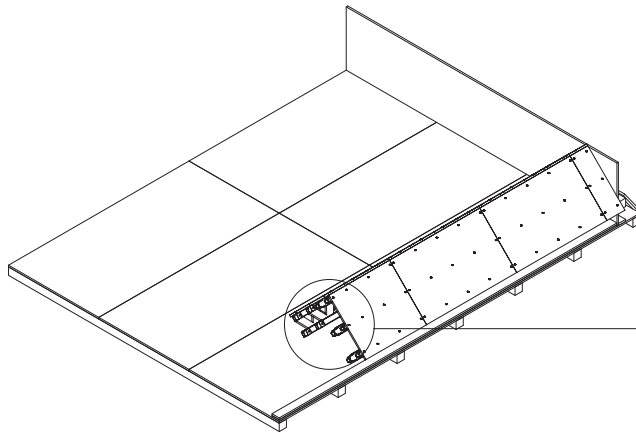

Fig. A3.04
4. Position the plywood and fix the first sheet with nails. The formlining is flush with front edge of fifth girder. Fix using approx. 10 TSS Torx 6 x 60, or TSS Torx 6 x 60 ZKS per m2. (Fig. A3.04)